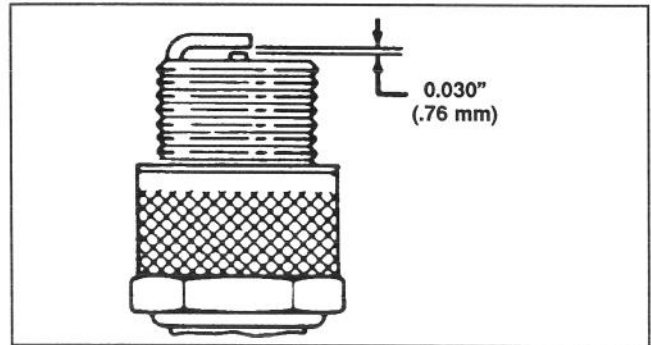

Figure 18
3. Set air gap at 0.030" (0.76 mm) (Fig. 18). Install correctly gapped spark plug and gasket seal. Tighten plug firmly to 15 ft-lb (20 N-m).